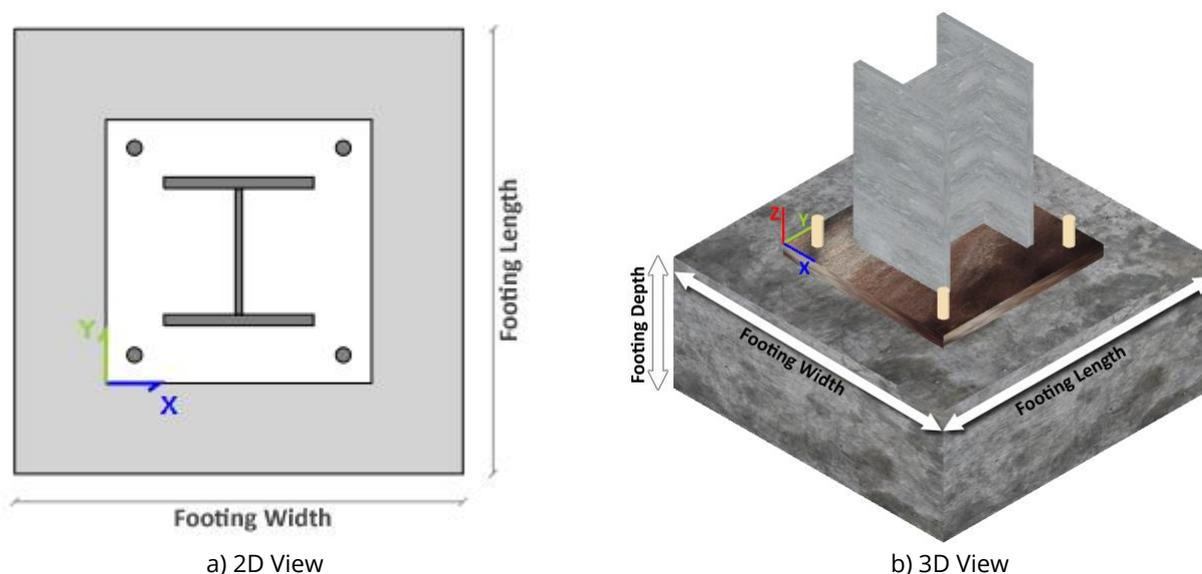

Figure 3-33, Footing Dimensions
- **Footing Width, Length & Depth:** Now, only rectangular footing can be modeled. The length and width of such footing are shown in figure 3-33. The maximum and minimum width and length ratio of footing dimensions correspond to base plate ones is limited to 10 and 1 respectively.